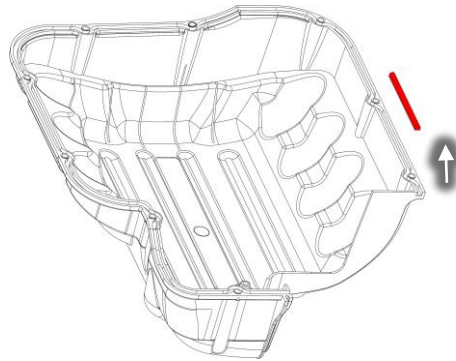

Figure 2 – Top Cover "D" Seal Removal
8. Remove the "D" seal from the cover. Refer to Figure 2 (Top Cover "D" Seal Removal).